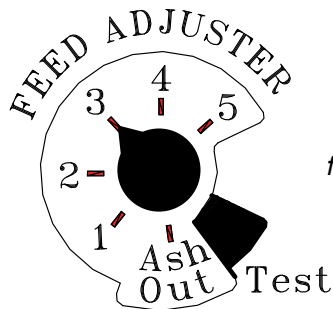

fig. 14
4. Turn Feed Adjuster to the # 3 position, fig. 14.
Turn the temperature control to lowest setting and allow the stove to cool down. Have all cleaning supplies ready and close by. Take note at which # the Feed Adjuster is set, fig 14. Turn Feed Adjuster knob to "Ash Out". (This is the ash removal setting.) This setting turns "off" the Combustion Blower and Feeder Motor but does not turn "off" the Draft Motor. Now the viewing door can be opened with minimal exhaust leakage. Use a safety razor in handle and scrape the inside of the glass with the blade almost flat to the surface, Fig 21. If further cleaning is necessary, the window can now be cleaned with liquid cleaner and a non synthetic cloth. **CAUTION: Do not spray cleaner directly on Hot Glass.** If the cleaning takes more than 4 minutes, the Distribution Blower will start to cycle up and down to indicate the Feed Adjuster knob was left in the "Ash Out" (ash removal setting). This is not a problem, just remember to return the Feed Adjuster to its previous setting when completed.